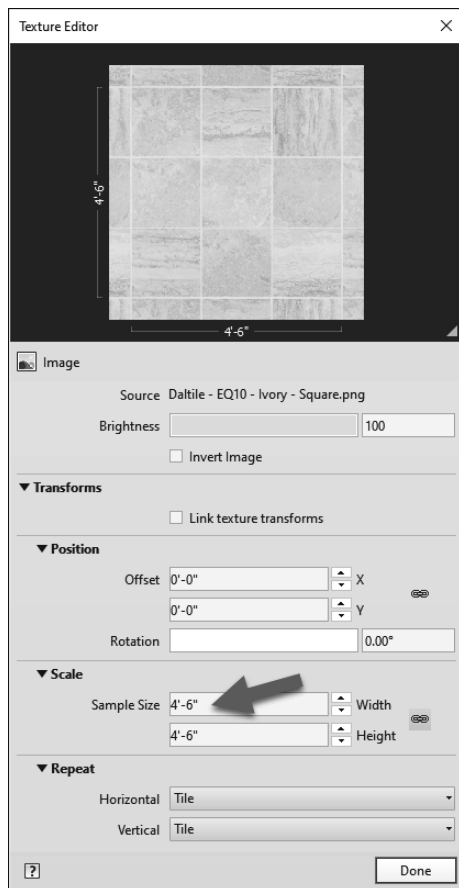

FIGURE 4-4.16 Adjusting texture size
65. In the *Texture Editor*, change the *Sample Size* to **4'-6"x4'-6"**; this is for three 18" tiles in each direction (Figure 4-4.16).